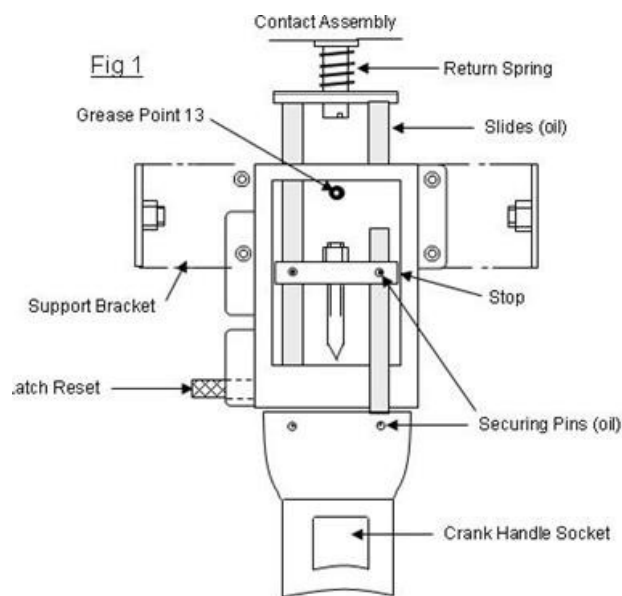

Figure 1 – Crank Handle Latch Assembly
- 3.4 Examine crank handle latch assembly see Figure 1